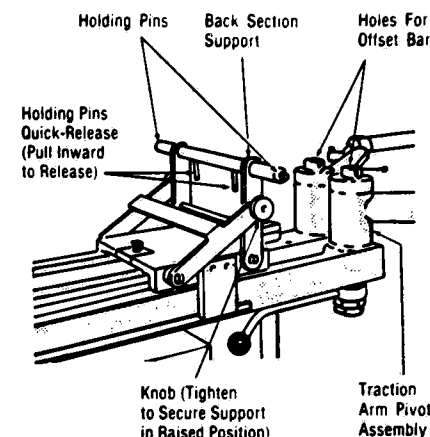

Figure 2-4. BACK SECTION FOOT-END SUPPORT.
2. Attaching Back Section, Sliding Arm Supports and Offset Bar (See Figure 2-4).